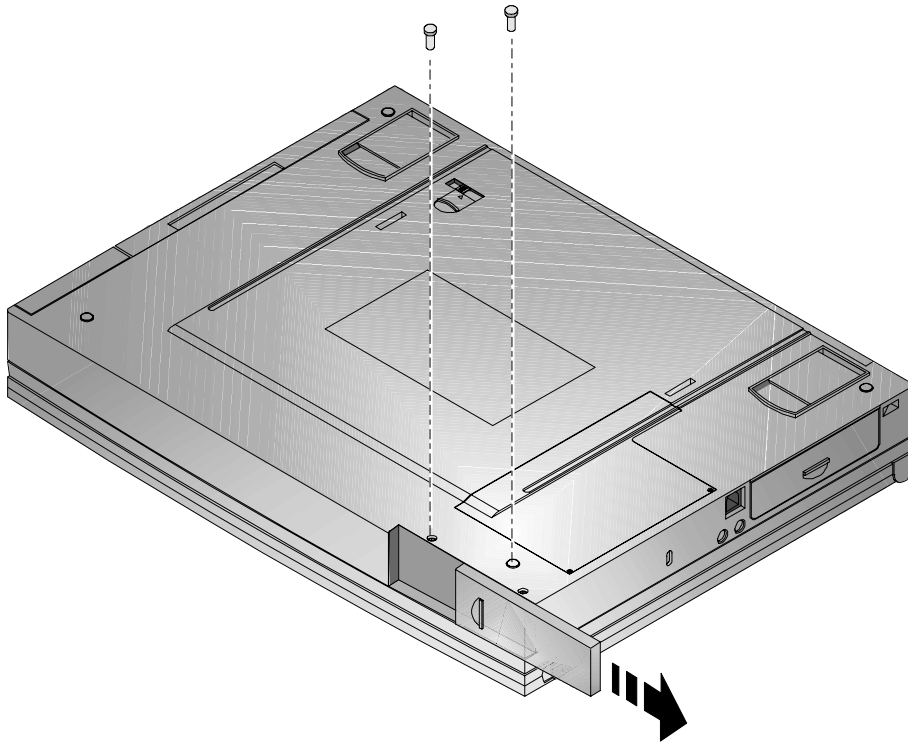
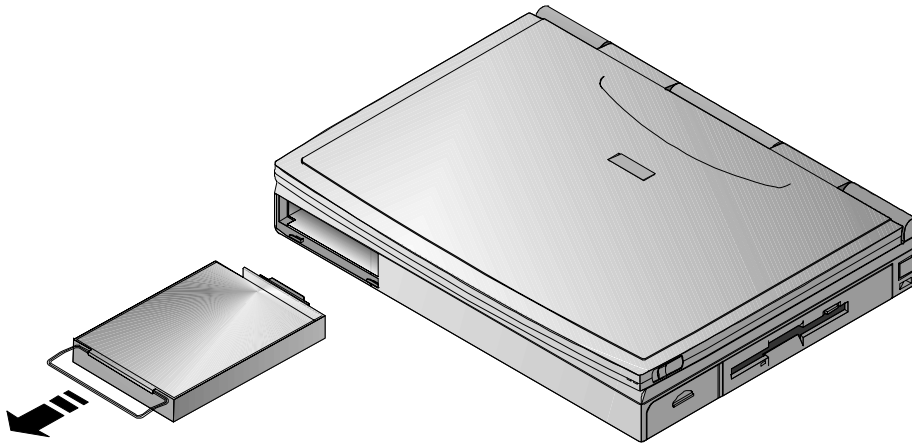

Figure 6-9: Removing the HDD (step 1)
Figure 6-10: Removing the HDD (step 2)
Eventually you may find that your notebook's HDDspace is limiting. Upgrade to a larger capacity HDD to provide additional hard disk space. The installation of an additional HDD is relatively simple. Please refer to Figure 6-9 and Figure 6-10.
2. There are two Philips head screws located on the bottom of the notebook. They secure the HDD into the unit and prevent it from being damaged. Remove these two screws. (Figure 6-9)
3. Slide the HDD module plastic cover in the direction of the arrows shown in Figure 6-9.
4. Gently remove the HDD from its housing, by pulling on its handle in the direction of the arrows shown in Figure 6-10.